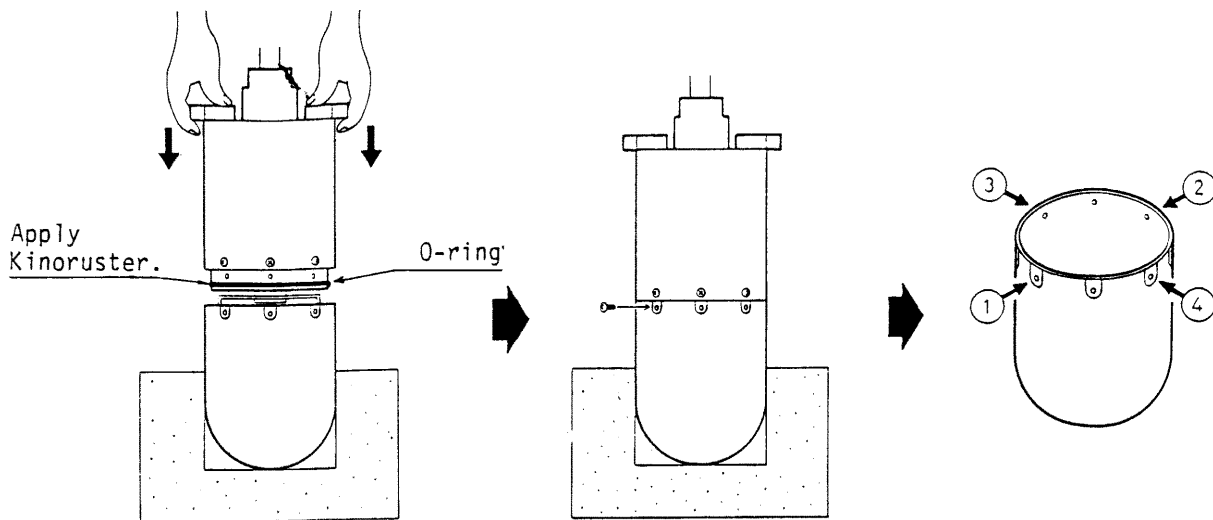

Figure 5.3
- 1) Fill the soundome (D) with oil up to the white line on the inner surface.
- 4) Fit the upper dome assembly into the soundome (D), making sure that screw holes are aligned.
- 6) Fasten the screws securely in diagonal order, especially for the first four screws made by 1 to 4 in Fig. 5.3.